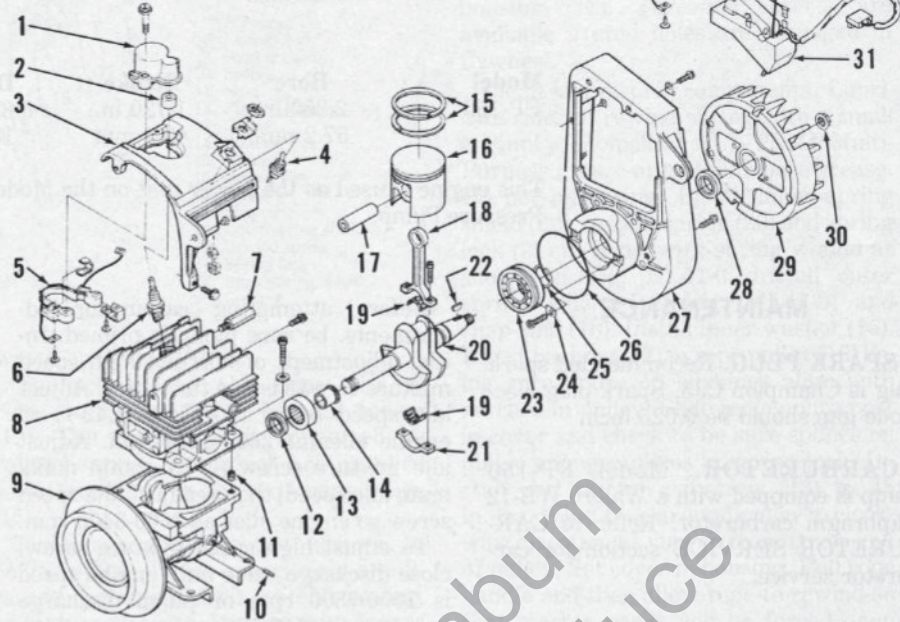

Fig. HL42-6—Exploded view of engine used on Model FP-150 pump.
CRANKSHAFT, CRANKCASE AND SEALS. Crankshaft is supported by a roller bearing (13—Fig. HL42-6) in crankcase (9) and by a ball bearing (23) in back plate (27). Bearing (23) and crankcase (9) and by a ball bearing (23) when separating crankcase and back plate. Remove bearing retainers (24), heat back plate and remove crankshaft with bearing (23). Wrap crankshaft end with tape to prevent scratches, remove snap ring (25) and pull bearing off crankshaft. Roller bearing and seals may be pressed out of crankcase and back plate using Homelite or other suitable tools. Inspect components for